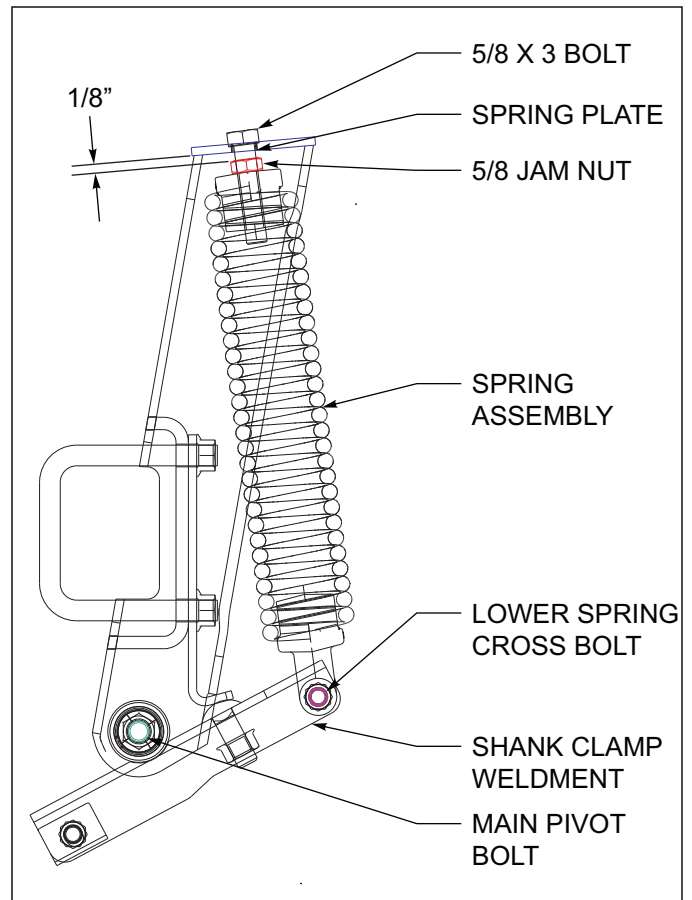

Figure 4-9: Spring Adjustment
3. When adjusting/assembling the spring assembly, tighten the upper spring bolt, but leave approximately 1/8" gap above the spring jam nut See Figure 4-9. This will leave the proper clearance for the spring to pivot. Lock the jam nut against the top of the spring, not the top of the mount. Likewise do not over tighten the lower spring cross bolt. Remove any slack in the bolt, but still allow the lower spring to pivot freely.